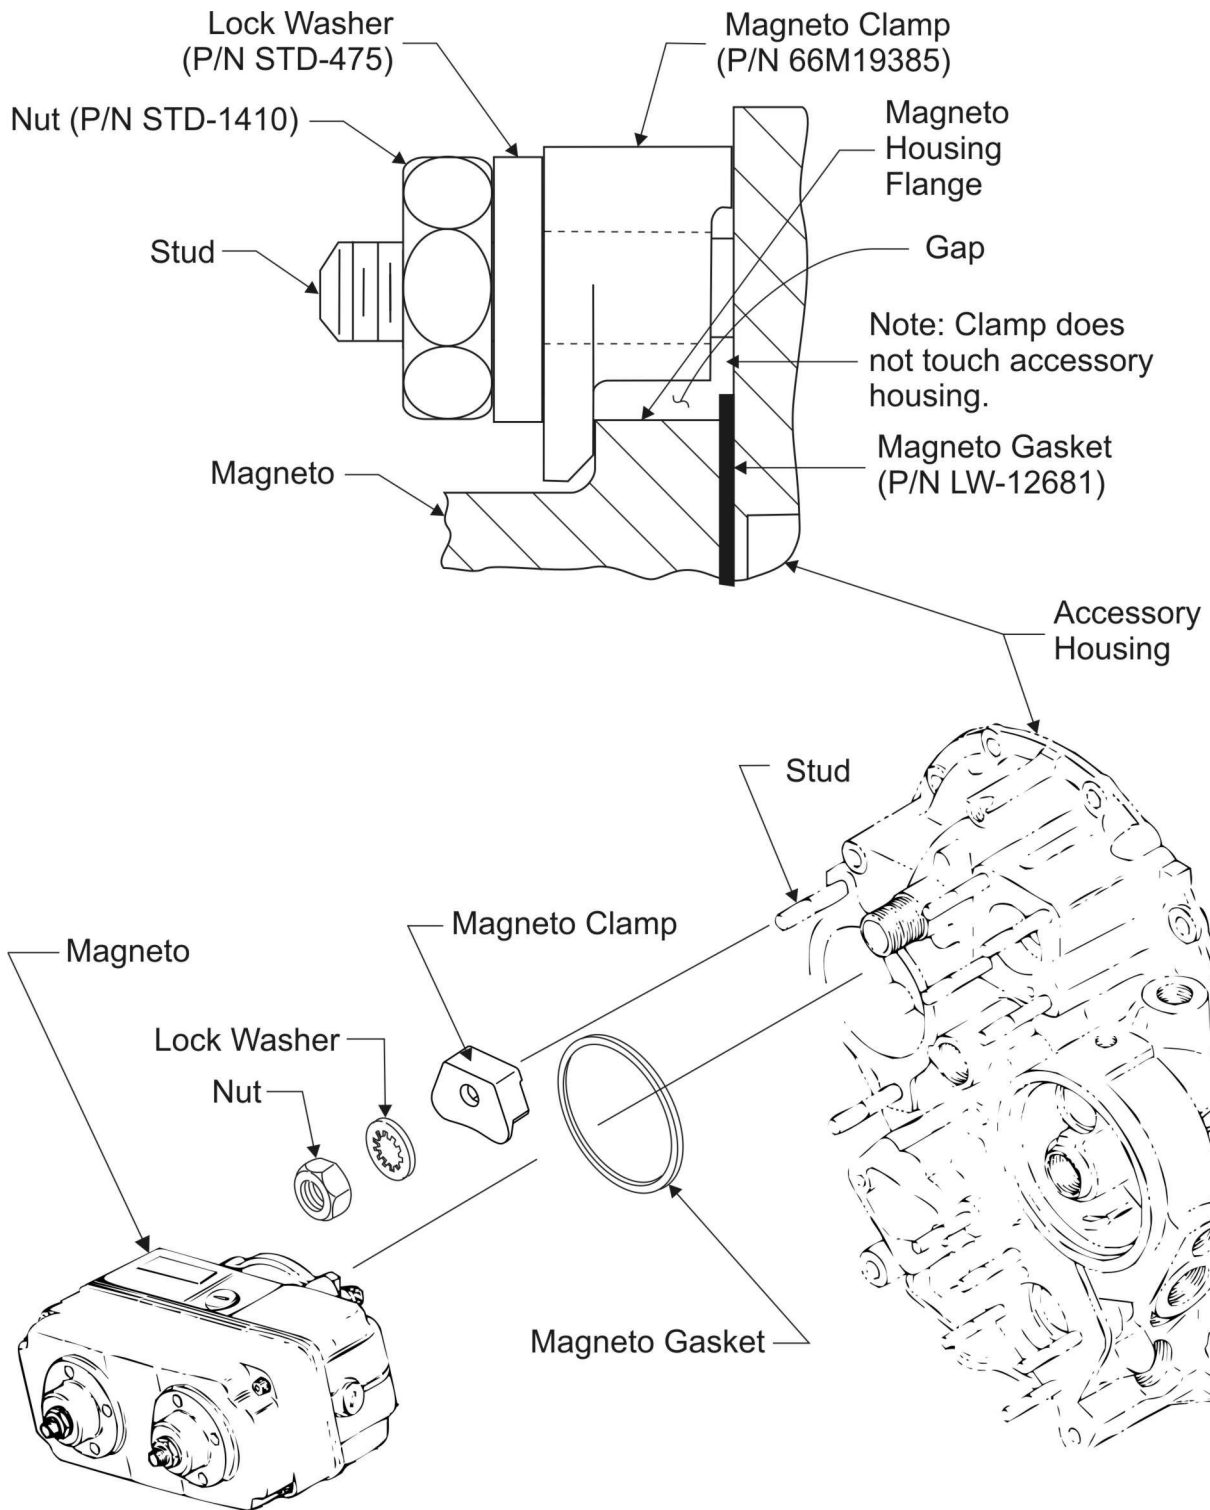
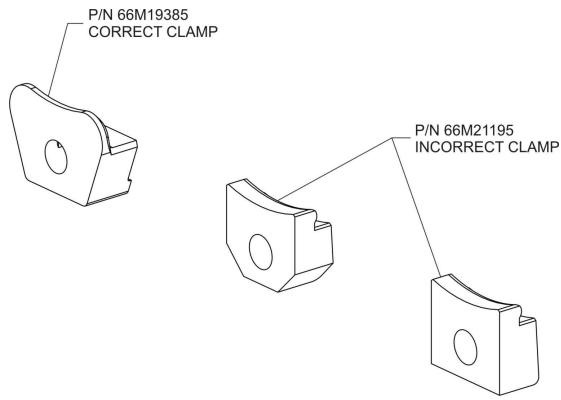

Figure 2
Figure 3
6. Install the correct magneto clamp P/N 66M19385 with a gap as shown in Figure 2. Use a 2-inch (5.08 cm) piece of 0.020 to 0.032 in. (0.05 to 0.08 cm) diameter safety wire as feeler stock to do a check that the gap between the rear accessory case and clamp is sufficient. For correct installation, no other clamps are acceptable. Refer to Figure 3.
7. Every time an attaching nut P/N STD-1410 is removed, install a new internal tooth lock washer P/N STD-475 as shown in Figure 2.
10. Examine the fixed position of the clamp after it is tightened. Make sure that the clamp does not touch the accessory housing as shown in Figure 2.